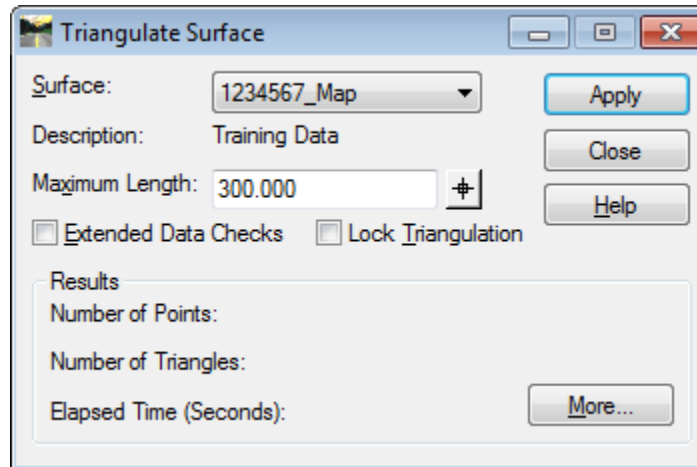

Figure L7-1 Triangulate Surface
5.	<p>The “Completed” Surface will now be triangulated for final submission.</p> <p>Select Surface ► Triangulate Surface. The Triangulate Surface dialog box will open.</p> <ul style="list-style-type: none">• In the Surface: Pulldown – select 1234567_Map• In the Maximum Length: field enter – enter 300.00 <p>Leave all other entries as default.</p> <p>The inputs should now correspond to the screen capture depicted in Figure L7-1 (as shown below). Verify to ensure that your input matches the screen capture.</p> <p>Opens the Triangulate Surface dialog box.</p>